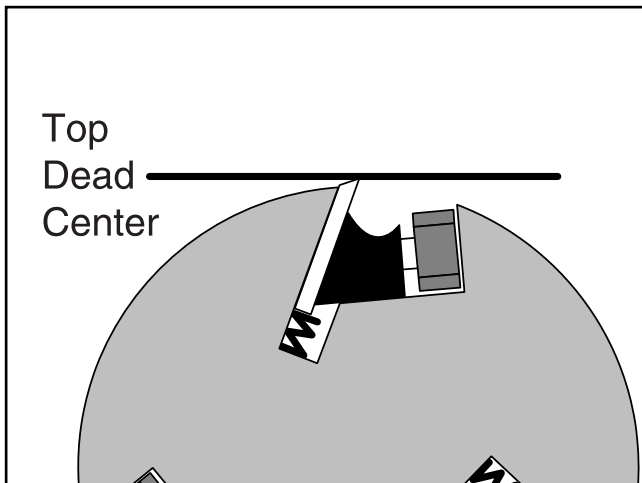

Figure 30. Cutterhead knife at top-dead-center.
2. Rotate the cutterhead so that one of the knives is at top dead center. Note—A knife is at top dead center when it is at its highest point during the rotation. See **Figure 30** for an illustration of a knife at top dead center.